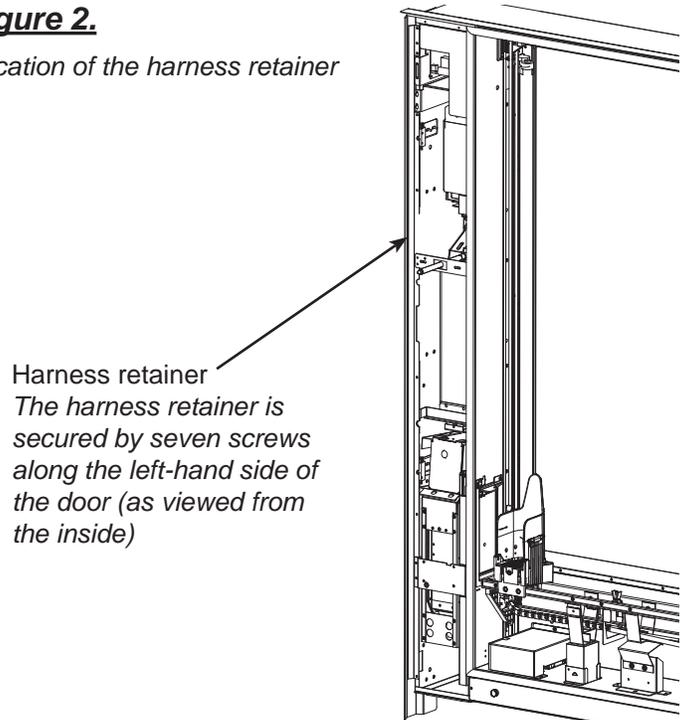

Figure 3.
6. Remove the two screws that secure the ballast tray in the vender. Then, pull the ballast tray straight out. (See Figure 3.)